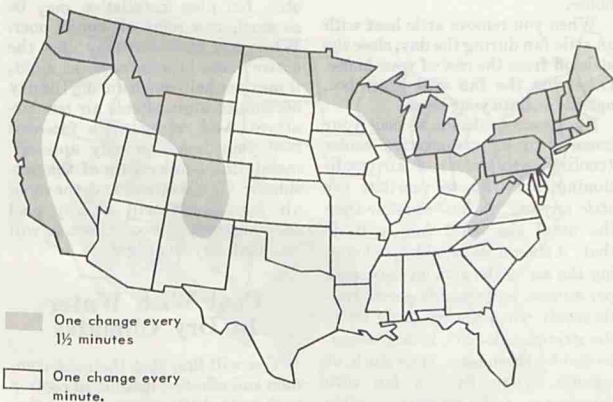

Figure 1.—Minimum air changes recommended for fan cooling.
- If you live in the dotted area of the map (fig. 1), divide the volume by 1.5. This will give you a minimum c.f.m. requirement. If you live in the undotted area, your minimum c.f.m. requirement will be the same as the volume you want cooled.